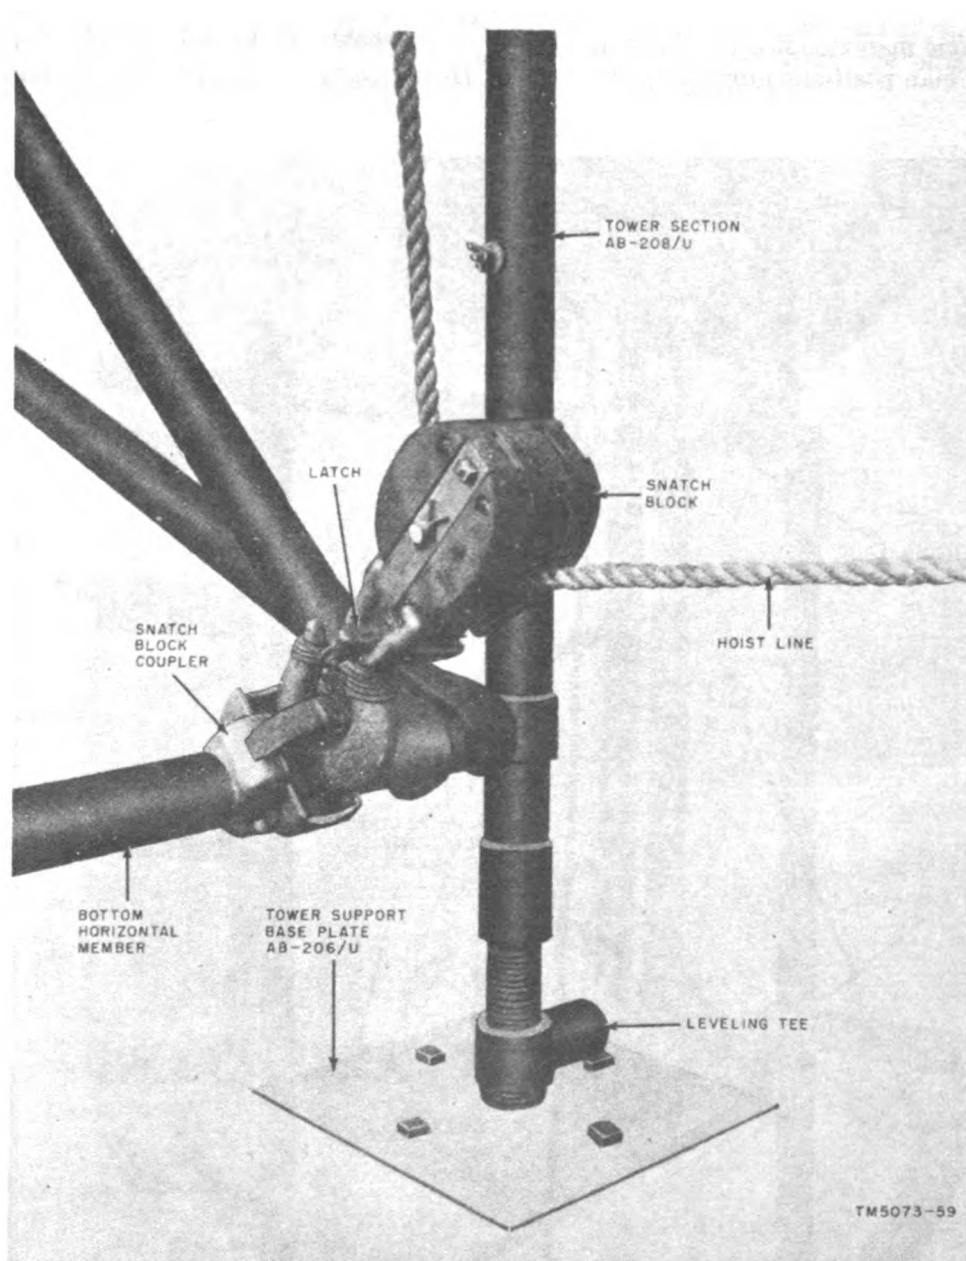

Figure 16. Installation of snatch block and snatch block coupler.
26. Installation of Snatch Block and Coupler (Fig. 16)